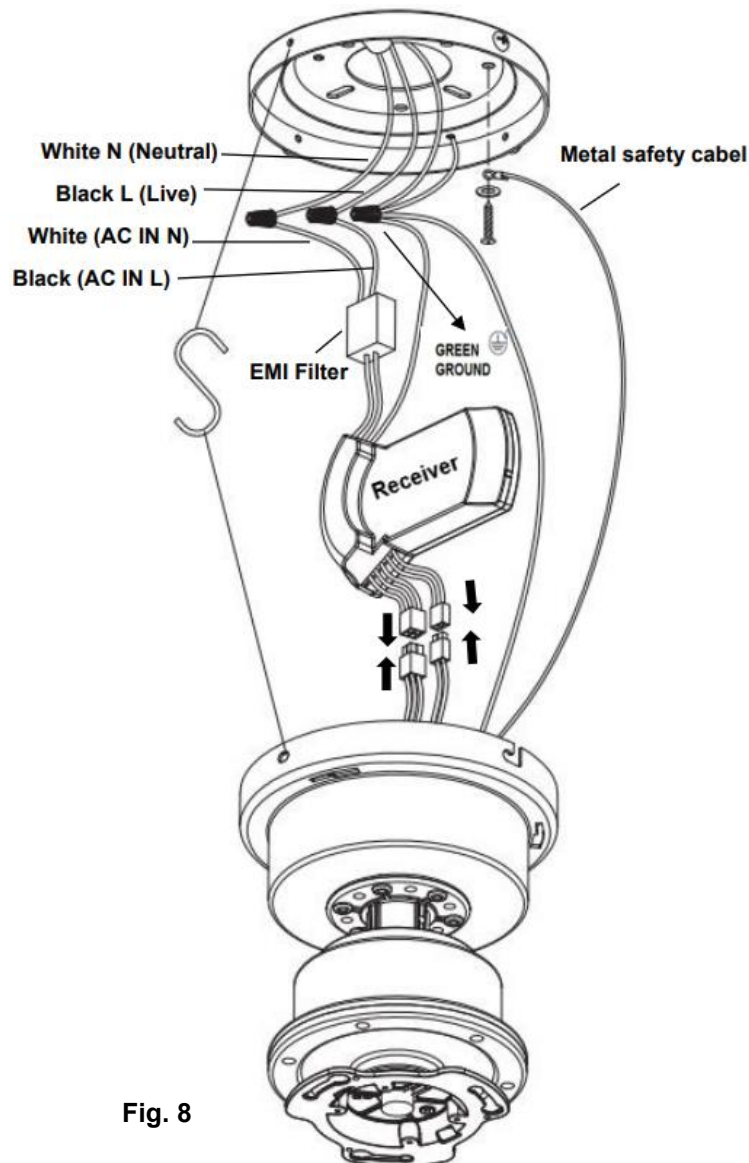

Fig. 8
- Complete the electrical wiring according to the 'ELECTRICAL WIRING DIAGRAM' section below. (Fig.8)
1. Connect the household live supply wire (black) to EMI filter input wire (black, AC IN L) as shown in **Fig. 8**